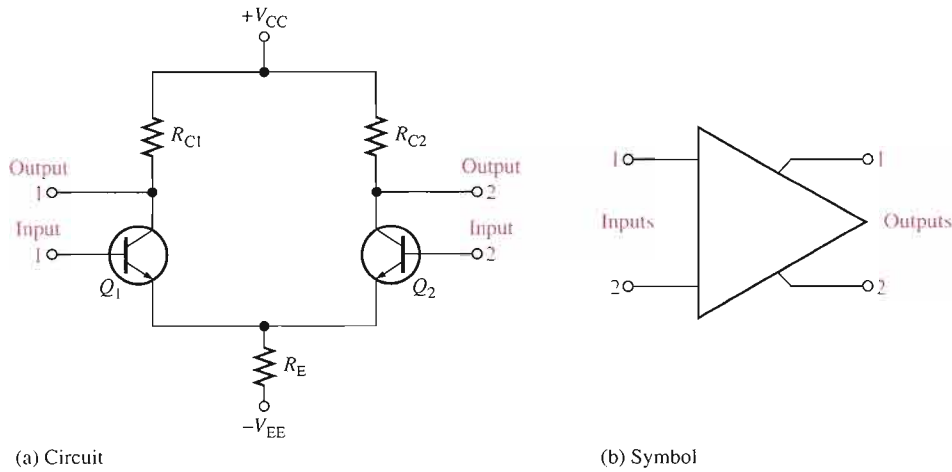

FIGURE 6–36
A basic two-stage, direct-coupled amplifier is shown in Figure 6–35. Notice that there are no coupling or bypass capacitors in this circuit. The dc collector voltage of the first stage provides the base-bias voltage for the second stage. Because of the direct coupling, this type of amplifier has a better low-frequency response than the capacitively coupled type in which the reactance of coupling and bypass capacitors at very low frequencies may become excessive. The increased reactance of capacitors at lower frequencies produces gain reduction in capacitively coupled amplifiers.
► **FIGURE 6–35**
A basic differential amplifier circuit and its symbol are shown in Figure 6–36. Notice that the differential amplifier has two outputs.
The following discussion is in relation to Figure 6–37 and consists of a basic dc analysis of the diff-amp's operation. First, when both inputs are grounded (0 V), the emitters are at -0.7 V, as indicated in Figure 6–37(a). It is assumed that the transistors are identically matched by careful process control during manufacturing so that their dc emitter currents are the same when there is no input signal. Thus,
This condition is illustrated in Figure 6–37(a).
Next, input 2 is left grounded, and a positive bias voltage is applied to input 1, as shown in Figure 6–37(b). The positive voltage on the base of Q_1 increases I_{C1} and raises the emitter voltage to